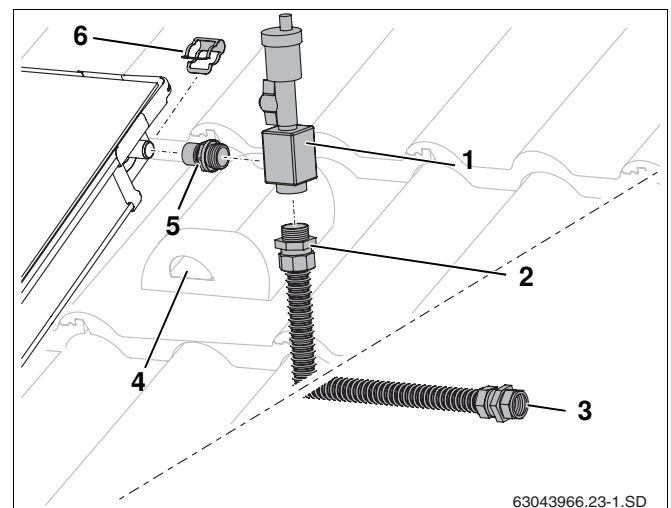

Fig. 58 Fitting the air vent
- Firmly screw threaded fitting (Fig. 58, **Item 5**) and connection pipe (Fig. 58, **Item 2**) into air pot (O-ring gasket).
- Push air pot (Fig. 58, **Item 1**) and threaded fitting onto collector connection and secure with bracket (Fig. 58, **Item 6**).
- Feed connection pipe together with the sensor cable through the ventilation tile (Fig. 58, **Item 4**) and through the roof insulation.
- Connect header pipe to the compression fitting (Fig. 58, **Item 3**).